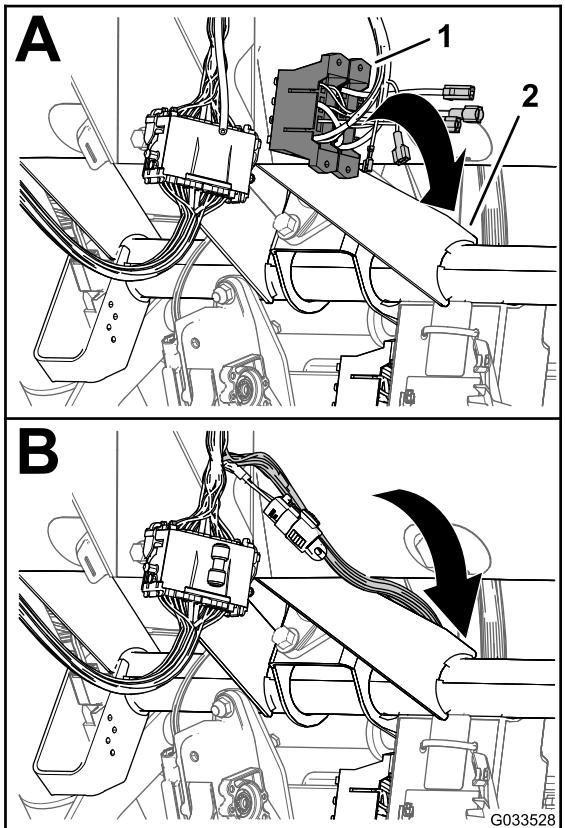

Figure 24
1. At the control console for the sprayer, route the branch of the front-wire harness with the fuse blocks between the bottom of the dash panel and the cross tube of the machine chassis and down toward the forward side of the fuse block of the machine (Figure 24).